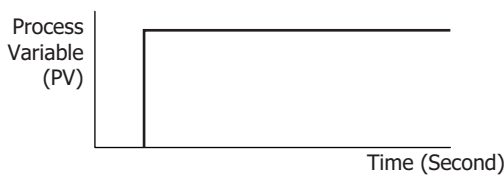
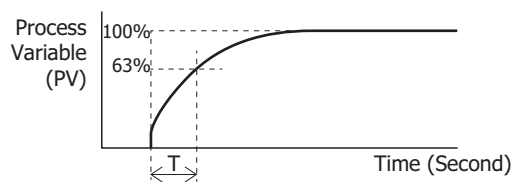

Figure 1. Process variable (PV) before PV filtering process
Figure 2. Process variable (PV) after PV filtering process
The PV filter function is a software filter to stabilize the process variable (PV) affected by fluctuating processes such as pressure or flow rate by calculating first-order lag of the process variable (PV). Even if the process variable (PV) changes as shown in the Figure 1, when the PV filter time constant is configured, the process variable (PV) changes as shown in the Figure 2. After the PV filtering process, the process variable (PV) reaches 63% of the process variable (PV) in T seconds.